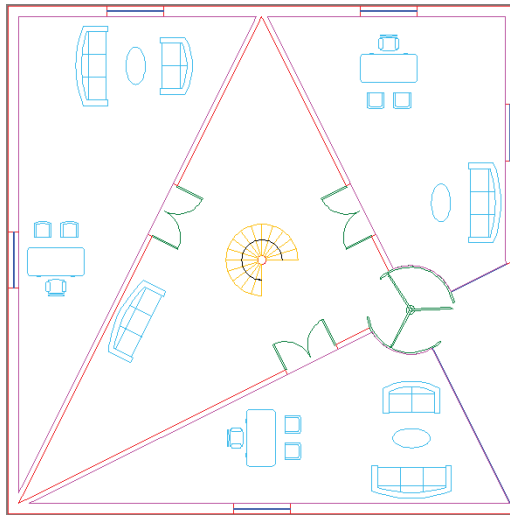

FIGURE 15.1 Diagram shown in Figure 11.1 converted into a floor plan for use in this chapter
1. Go to the book's web page at www.sybex.com/go/autocad2014_essentials, browse to Chapter 15, get the file Ch15-A.dwg or Ch15-A-metric.dwg, and open it. The drawing is an elaboration on the diagram you dimensioned in Chapter 11, "Dimensioning" (see Figure 15.1).